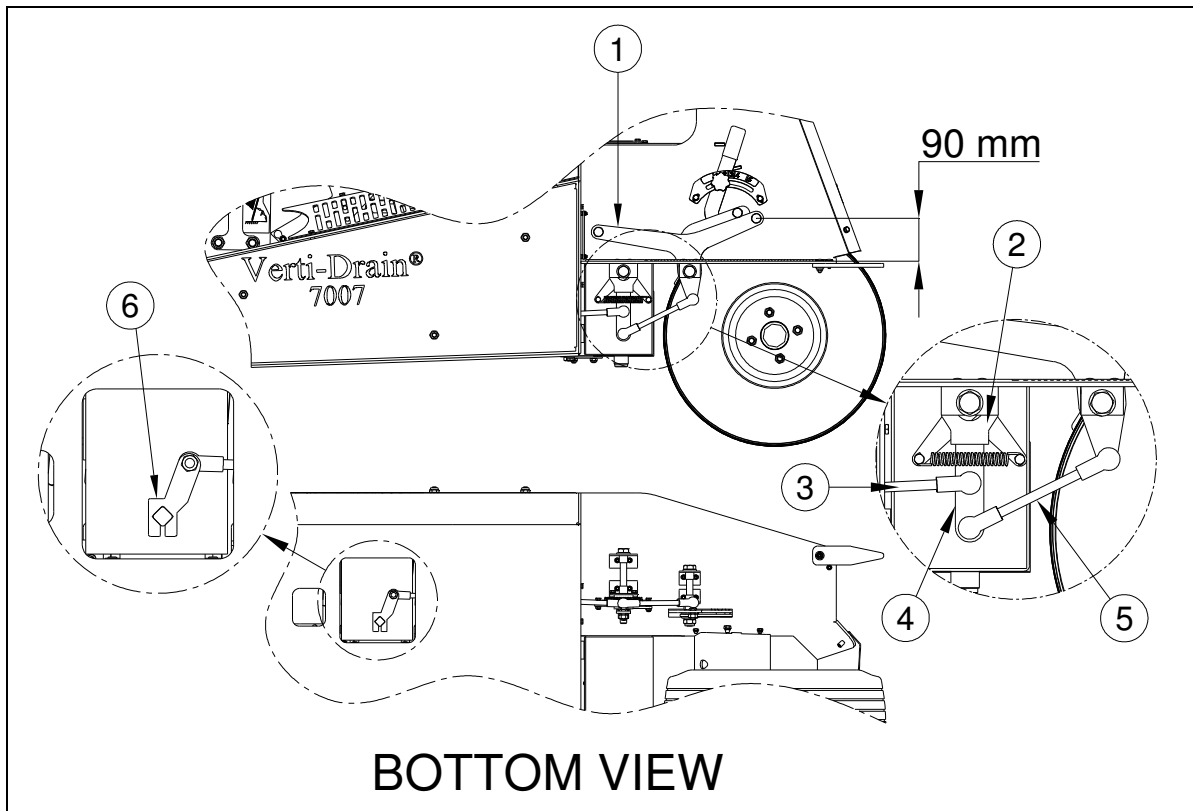

Fig. 25
To ensure that the pedal is optimally used, it must be adjusted correctly. Adjust the pedal by using the two threaded rods that can be found under the foot plate. The following two conditions must be met to correctly adjust the pedal: (see fig. 25)
- The pedal (1) must be at the correct angle. Turn the threaded rod (5) of hinge point 4 to the pedal for as long as necessary until the front section of the pedal protrudes by 90 mm above the foot plate as indicated in fig. 25.
@ In short, the pedal must, therefore, protrude by 90 mm above the foot plate as indicated in fig. 25 when the machine is standing still and the engine running.